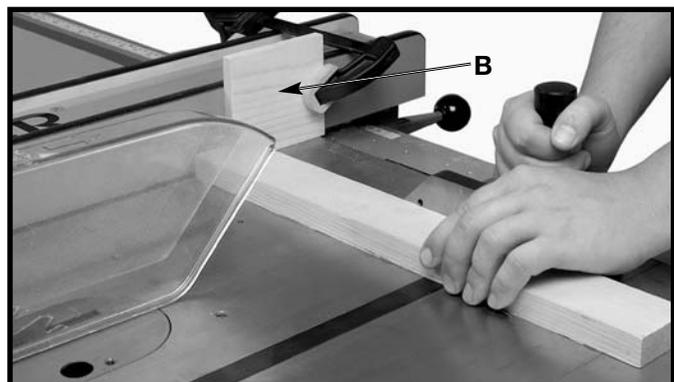

Fig. 61
When cross-cutting a number of pieces to the same length, a block of wood (B) Fig. 61 can be clamped to the fence and used as a cut-off gage as shown in Fig. 61. It is important that this block of wood always be positioned in front of the saw blade as shown. Once the cut-off length is determined, secure the fence and use the miter gage to feed the work into the cut. This block of wood allows the cut-off piece to move freely along the table surface without binding between the fence and the saw blade, thereby lessening the possibility of kickback and injury to the operator.
⚠ CAUTION When using the block (B) Fig. 61, as a cut-off gage, it is very important that the rear end of the block be positioned so the work piece is clear of the block before it enters the blade.